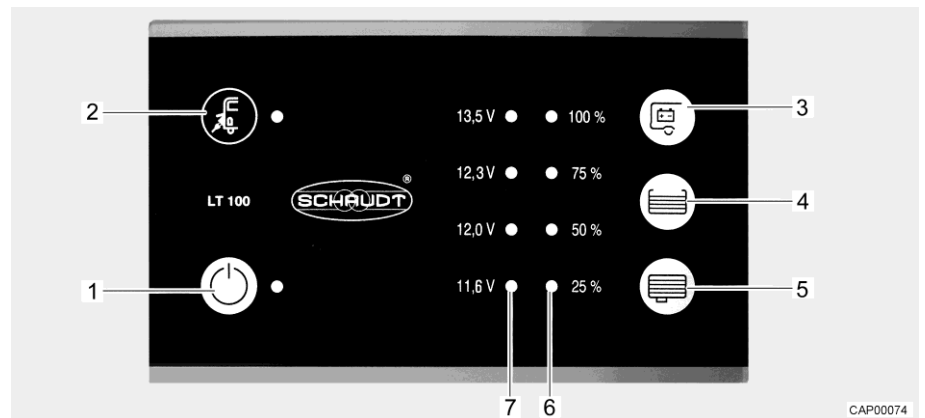

Fig. 63 Panel (LT 100)
The yellow LED at the mains connection symbol "⚡" (Fig. 63,2) is lit when the vehicle is connected to an external mains supply. In this case, the LED will also be lit when the panel is switched off.
The 12 V main switch (Fig. 63,1) switches the panel and the 12 V power supply of the living area on and off.
Switching on: ■ Press switch "⏻" (Fig. 63,1): The 12 V living area power supply is switched on. The LED lights up green.
Switching off: ■ Press switch "⏻" (Fig. 63,1) again: The 12 V living area power supply is switched off. The LED goes out.
The LED array (Fig. 63,7) displays the battery voltage of the living area battery as follows:
- Press the button " " (Fig. 63,3): the battery voltage of the living area battery is displayed.
The LED array (Fig. 63,6) displays the fill level of the fresh water tank or of the waste water tank.
Press the button "☰" (Fig. 63,4): The fill level of the fresh water tank is displayed by lit LEDs.
Press the button "☰" (Fig. 63,5): The fill level of the waste water tank is displayed by lit LEDs.